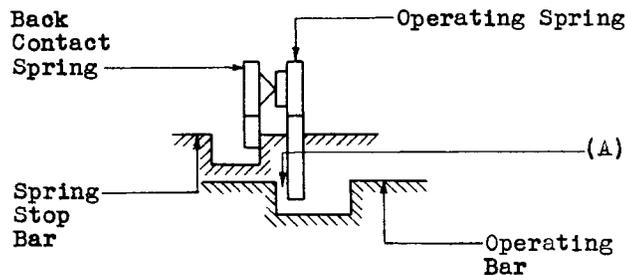

Fig. 17
**2.12 Clearance Between Operating Spring and Operating Bar or Stud on Break and Transfer Spring Combinations - Figs. 17 (A) and 18 (A) - With the operating bar in the normal position, this clearance shall be:**